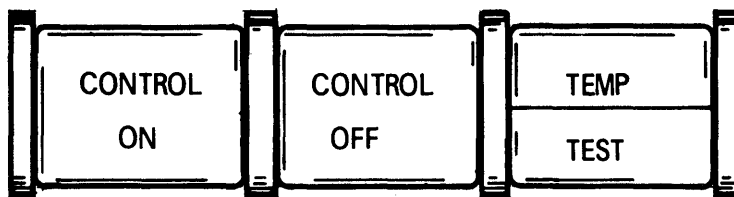

Figure 3-1. Control Unit Operator's Control Panel
The operator's control panel, shown in Figure 3-1, is located in the upper left-hand corner on the front of the control unit cabinet. These controls are used to turn DC power on, or off, and to monitor certain physical conditions within the control unit. The panel components are further described in Table 3-1.
- (2) The following steps are performed at the operator's control panel, see Figure 3-1.
- (1) The following steps are performed at the operator's control panel, see Figure 3-1.